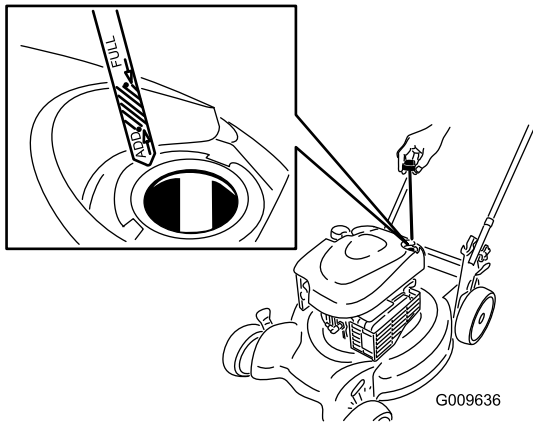

Figure 18
2. Remove the dipstick (Figure 18).
- Slowly** pour oil into the oil fill tube until the oil level reaches the **Full** line on the dipstick (Figure 18). **Do not overfill.** (Max. fill: 20 oz. (0.59 l), type: SAE 30 detergent oil with an API service classification of SF, SG, SH, SJ, SL, or higher.)